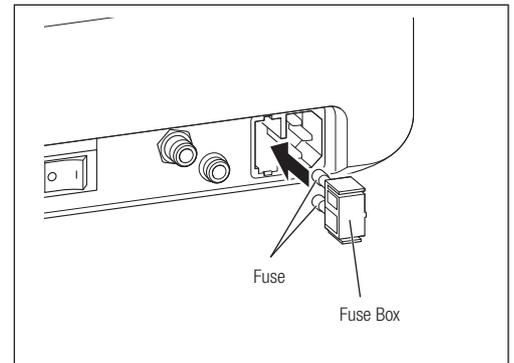

Fig. 60
- 3) Remove the Fuse Holder located at the back of the Control Unit while keeping the nails at both ends pushed inward (Fig. 60).